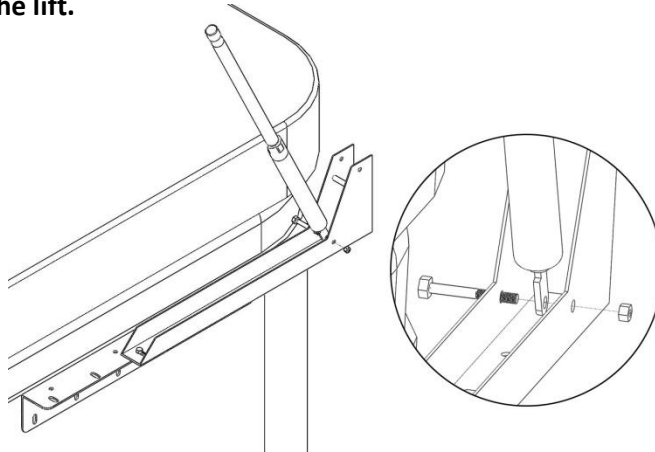

**Figure 6d**
d. Use the 4 Lag Screws (cvA) to mount the Side Mount Bracket (cvAA) to the side of the spa. Repeat Steps 6a through 6d on the other side of the spa. See Fig 6d. After you install the Lag Screws (cvA) tighten the Medium Hex Bolts (cvD) and Lock Nuts (cvF) holding the brackets together.